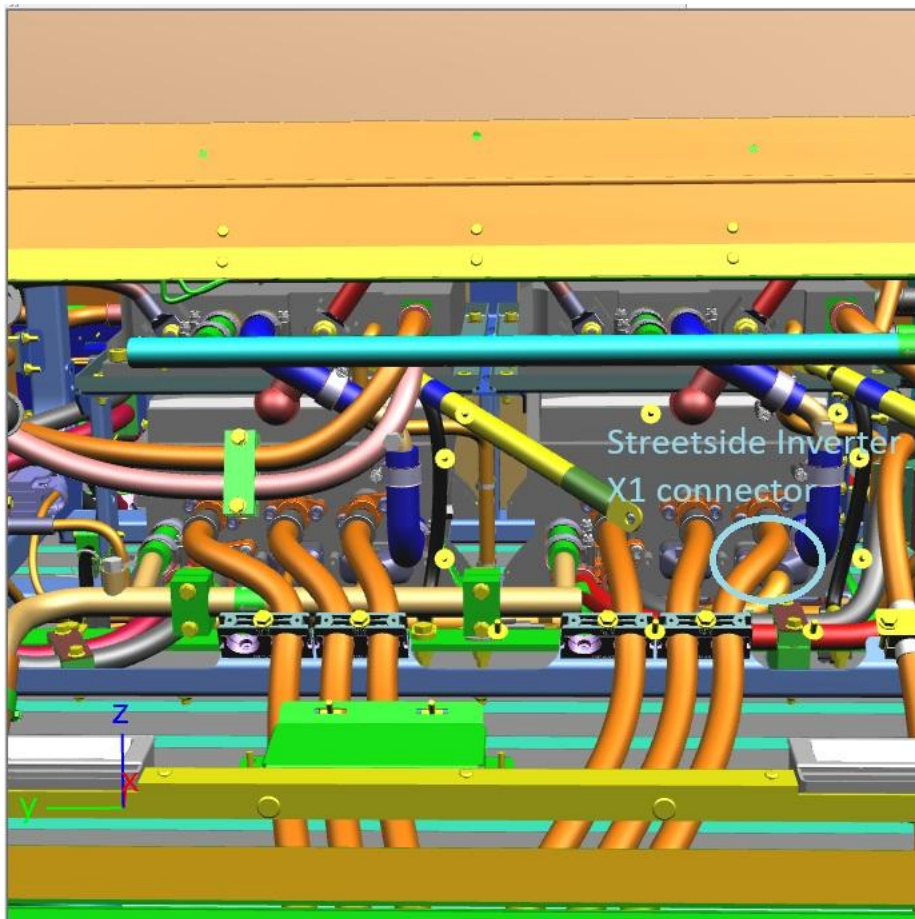

Figure 11: XE35/40 high grade streetside traction inverter X1 connector highlighted in light blue
33. Locate the X1 connector on the streetside traction inverter (see figure 11) and remove it. Secure this connector nearby using Tywraps to reconnect later. Be aware the locking tab is located on the bottom of the connector and needs to be opened.